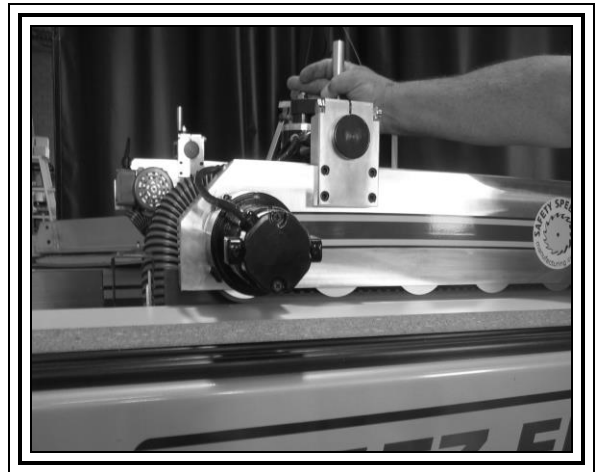

FIGURE 12
4. Power Feeder Height Adjust (FIGURE 12)